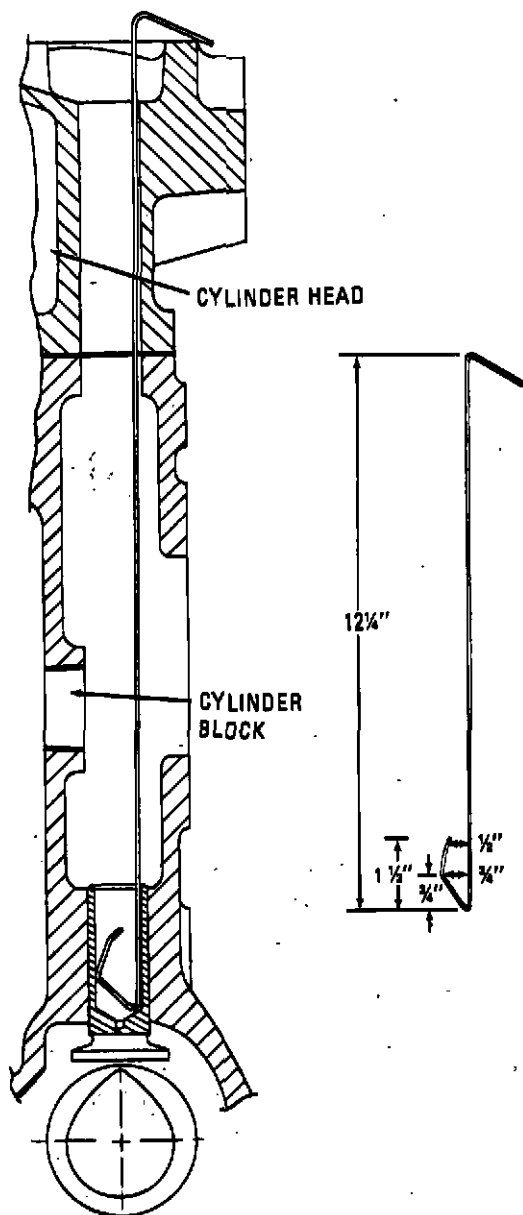

Figure 5-32. Valve Tappet Positioned for Camshaft Removal
10. If the engine is being serviced while in the unit, the valve tappets (51) must be held in the raised position in order to remove the camshaft. Make a holder, as illustrated in figure 5-32, by bending a wire to form a spring-acting hook on one end. Insert the holder into the hollow part of the tappet to lift it away from the camshaft. Bend the holder over the edge of the pushrod hole in the cylinder head so that the tappet will remain in this position. Repeat this procedure for each of the remaining tappets. With the engine out of the unit, set the engine on the bellhousing or upside down (support the engine with suitable blocks so that the cylinder head studs will clear), push the tappets to the raised position, and remove the camshaft.
2. Insert the valve tappets (51, figure 5-19) into their respective holes in the cylinder block. Use the holding wires to keep the tappets in the raised position during camshaft installation, as shown in figure 5-32.